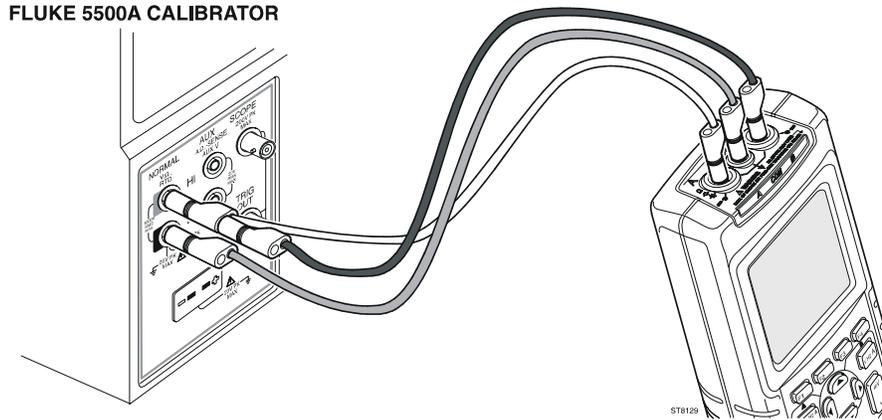

Figure 3-8. Test Tool Input A-B to 5500A Normal Output for >300V
1. Connect the test tool to the 5500A as shown in Figure 3-8.